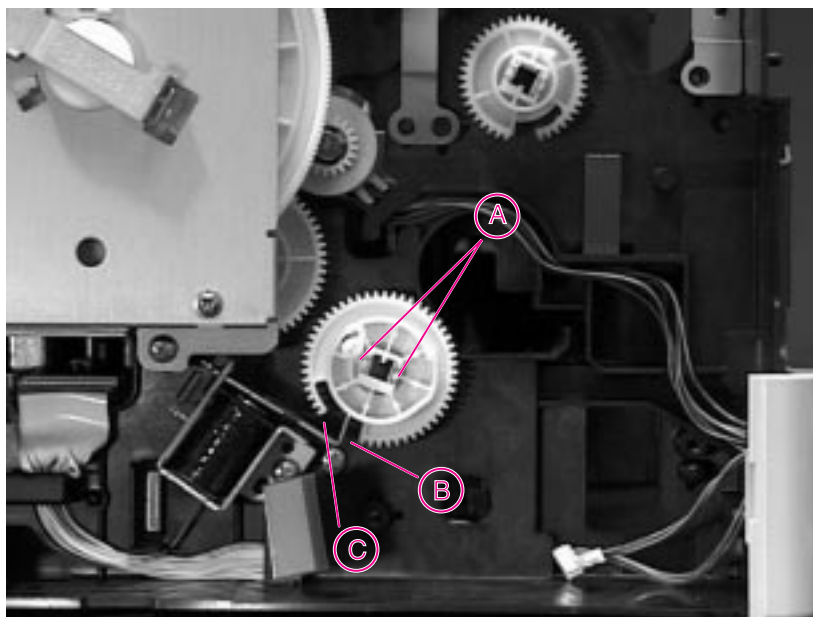

Figure 6-44
- 3 Align the solenoid arm (B) (see Figure 6-44) with the gap in the gear (on the left side of the printer).
- 4 Press the release tabs (A) outward, and slide the gear off the shaft.